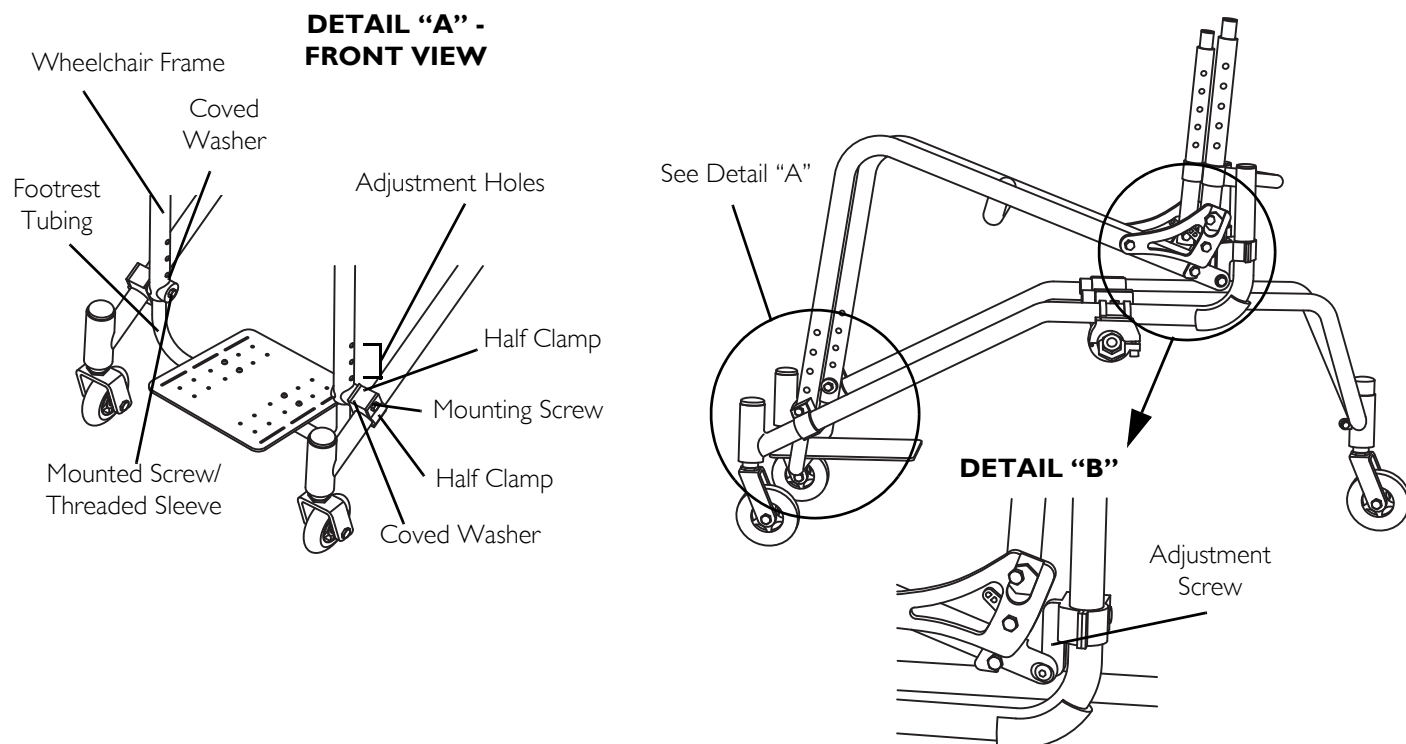

FIGURE 6.2 Adjusting Transformer Seat Height
NOTE: For this procedure, refer to FIGURE 6.2 on page 51
1. Note the order of the mounting screw, coved washers, spacer, half clamps and mounting screw/threaded sleeve and their position on the wheelchair frame and footrest tubing (Detail "A", FIGURE 6.2).